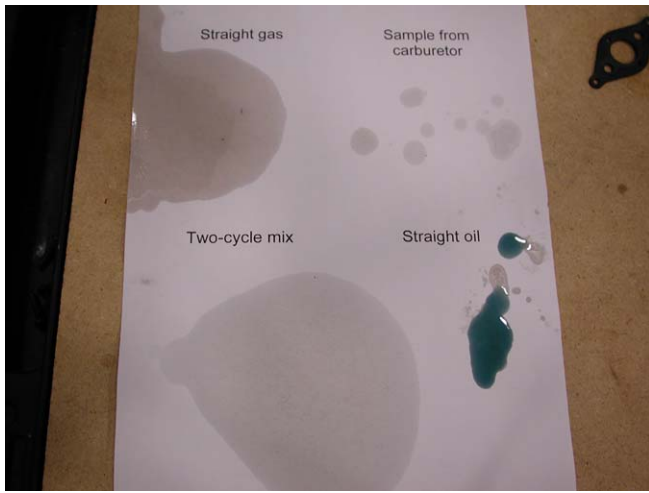

Figure 5.3
5. Match the sample from the carburetor to the other three samples. This will show if there is oil in the fuel or not. See Figure 5.3.